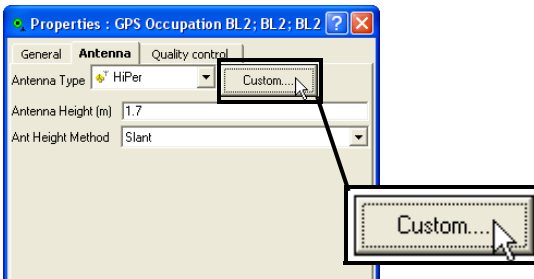
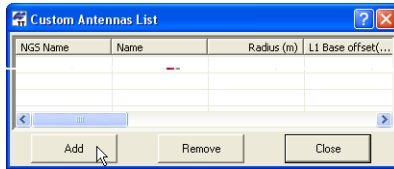

Figure 5-7. Custom Antennas List
Figure 5-8. New Custom Antenna
2. On the *Antenna* tab, click **Custom** (Figure 5-7) to display the *Custom Antennas List* dialog box (Figure 5-8).
- On the *Custom Antennas List* dialog box, click **Add** (Figure 5-8). To remove an antenna, click on the antenna's row and click **Remove**.